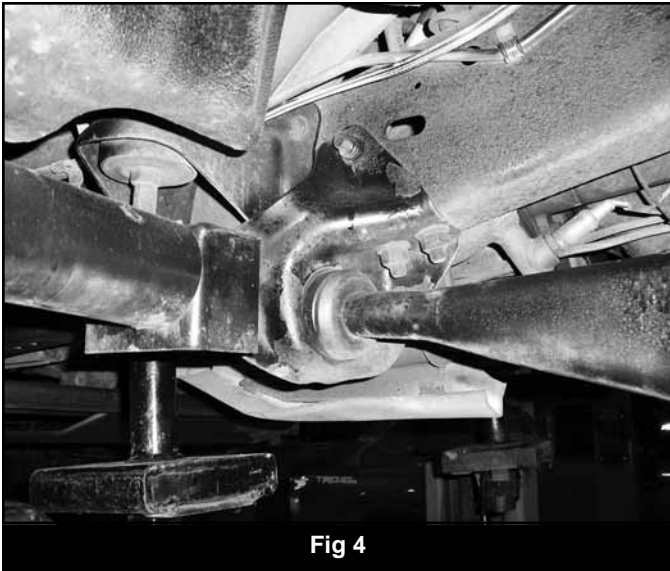

Fig 4
9. Place a hydraulic jack under the radius arm bracket. Remove OEM rivets and bolts that attach the bracket to frame rail, discard hardware. Lower jack and move to radius arm at axle mount, under the coil. (Fig 4)